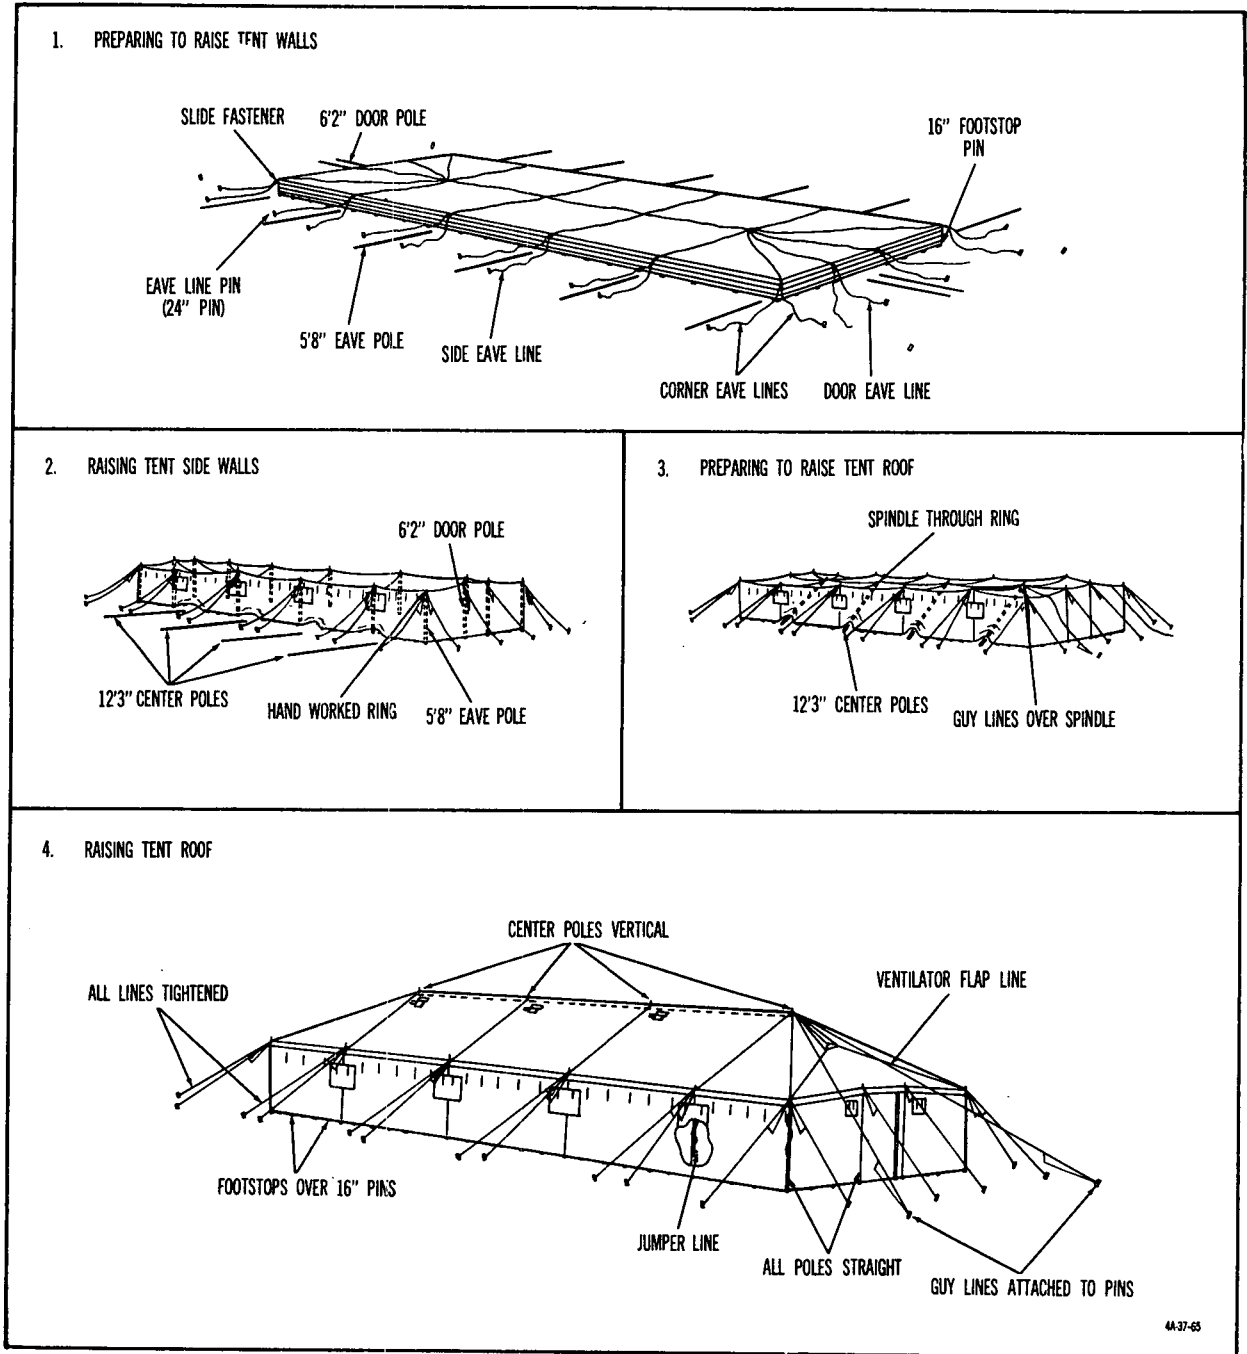

Figure 21. Steps in pitching tent, general purpose, large.
(1) *Securing tent to ground in preparation for raising tent walls* (1, fig. 21).
- (2) *Raising tent sidewalls* (2, fig. 21).
- (3) *Preparing to raise tent roof* (3, fig. 21).
- (4) *Raising tent roof* (4, fig. 21).